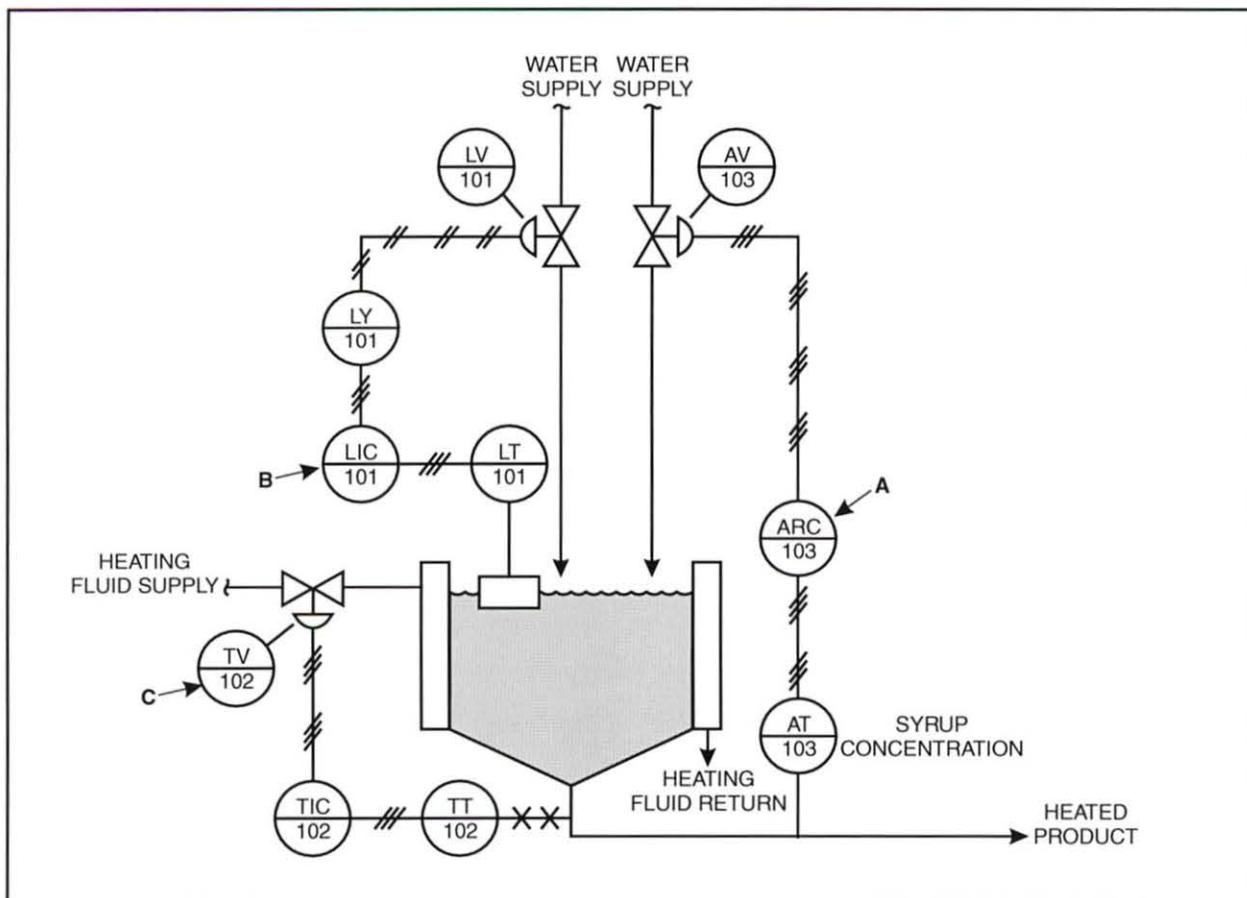

Figure 70. Heating and Mixing System
10. Determine the measured variable and function indicated by each tag identified by figure 70.